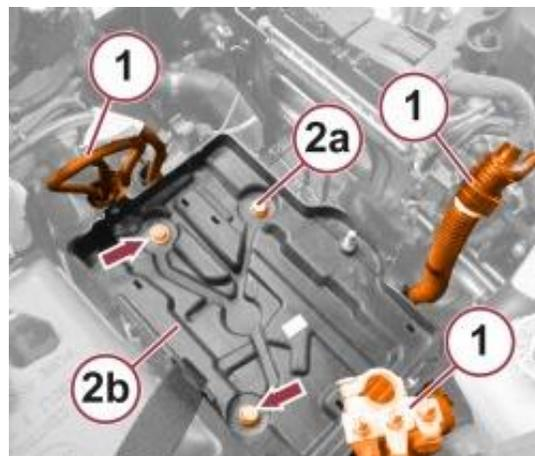

Figure 6 – Battery Tray
10. Release the engine wiring (1) from the retaining clips on the battery tray (Figure 6).
11. Remove the screws (2a) then remove the battery tray (2b) (Figure 6).
11. Position the battery tray (2b) and install the screws (2a) then tighten the screws to 15.5 N·m (11.5 ft. lbs.) (Figure 6).
12. Secure the battery electrical wiring (1) and close the retaining bands (Figure 6).